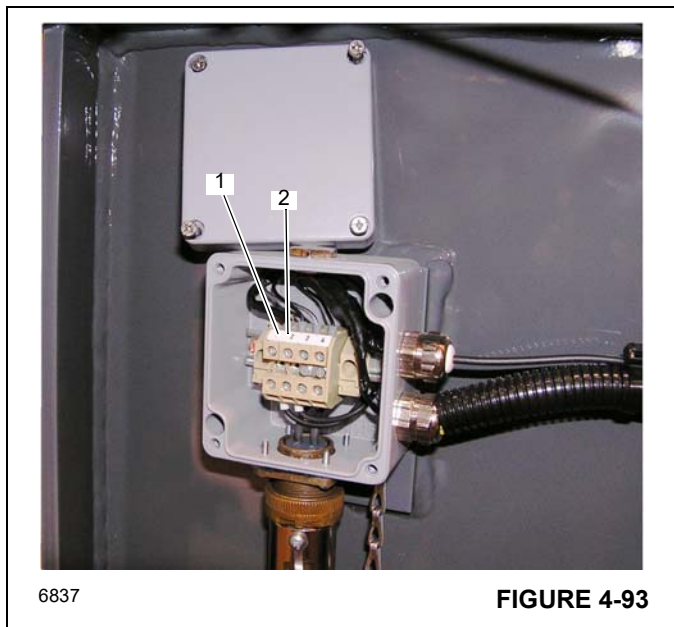

FIGURE 4-93
- b. Connect the “SHD” wire (1), (Figure 4-93) to Terminal 1 and the “CORE” wire (2), (Figure 4-93) to Terminal 2.